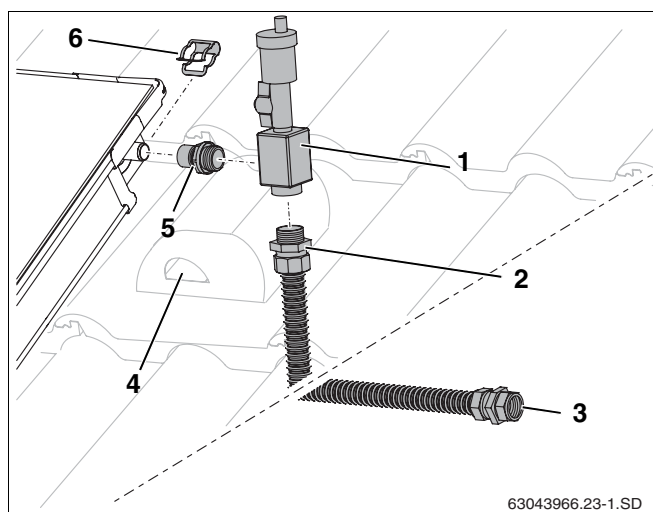

Fig. 58 Fitting the air vent
- ▶ Firmly screw threaded fitting (Fig. 58, **Item 5**) and connection pipe (Fig. 58, **Item 2**) into air pot (O-ring gasket).
- ▶ Push air pot (Fig. 58, **Item 1**) and threaded fitting onto collector connection and secure with bracket (Fig. 58, **Item 6**).
- ▶ Feed connection pipe together with the sensor cable through the ventilation tile (Fig. 58, **Item 4**) and through the roof insulation.
- ▶ Connect header pipe to the compression fitting (Fig. 58, **Item 3**).